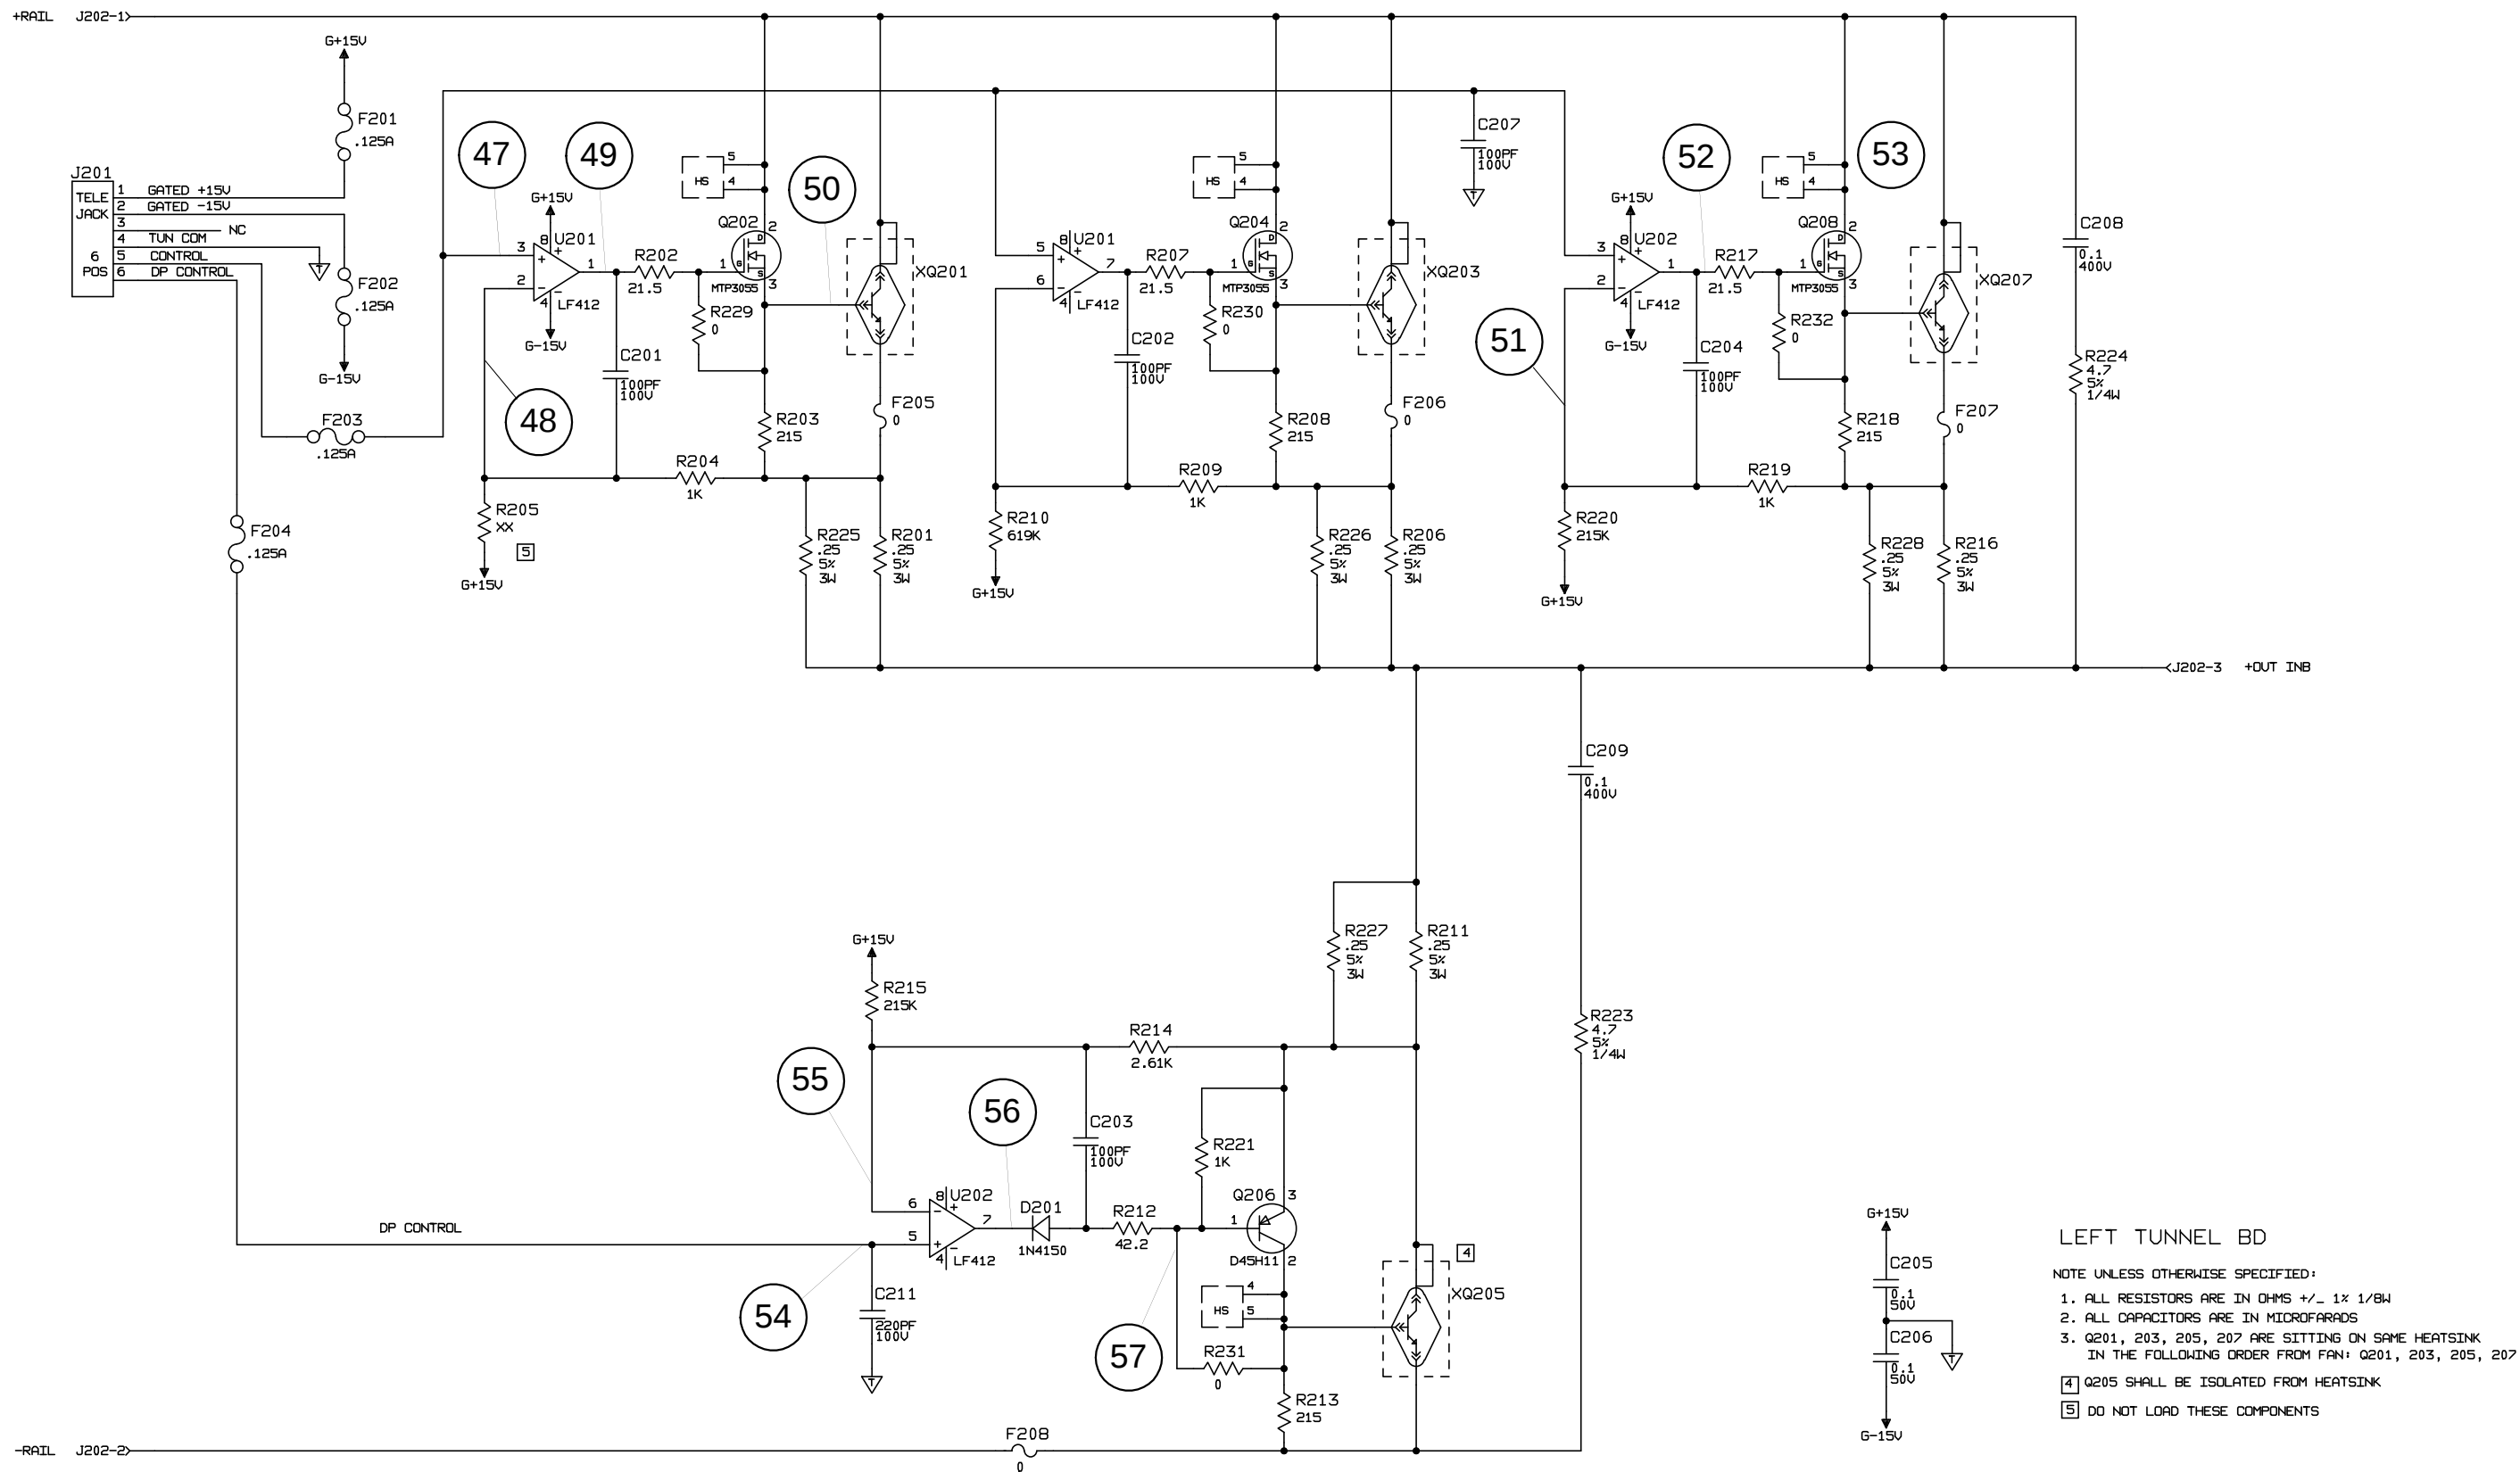

Figure 6-6. Left Tunnel Circuits Schematic Diagram for 655xA & 665xA Models Only (sheet 1)
Artisan Technology Group - Quality Instrumentation ... Guaranteed | (888) 88-SOURCE | www.artisantech.com **Figure 6-6 Left/Right Tunnel Board Assembly Diagram and Test Points for 655xA & 665xA Models Only**